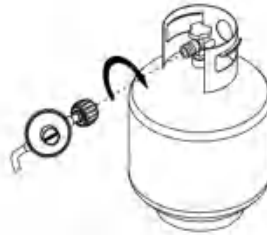

Figure 25
5. When connecting regulator and hose assembly to tank valve hand tighten quick coupling nut clockwise to a full stop (Fig. 25) Do not use a wrench to tighten because it could damage the quick coupling nut and result in a hazardous condition.